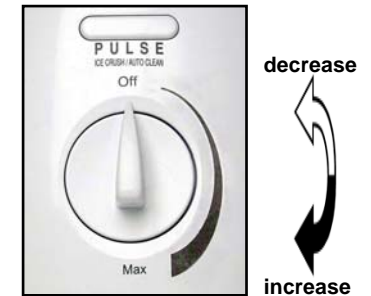

Fig. 4
3. Place the blender jar into position on the power base. (Fig. 4)
**Caution: When working with hot foods or liquids, always remove the measuring cap from the blender jar cover to vent the steam. Keep hands and other exposed skin away from the opening to prevent possible burns or scalding. Do not use more than two (2) cups of hot liquid at a time.**